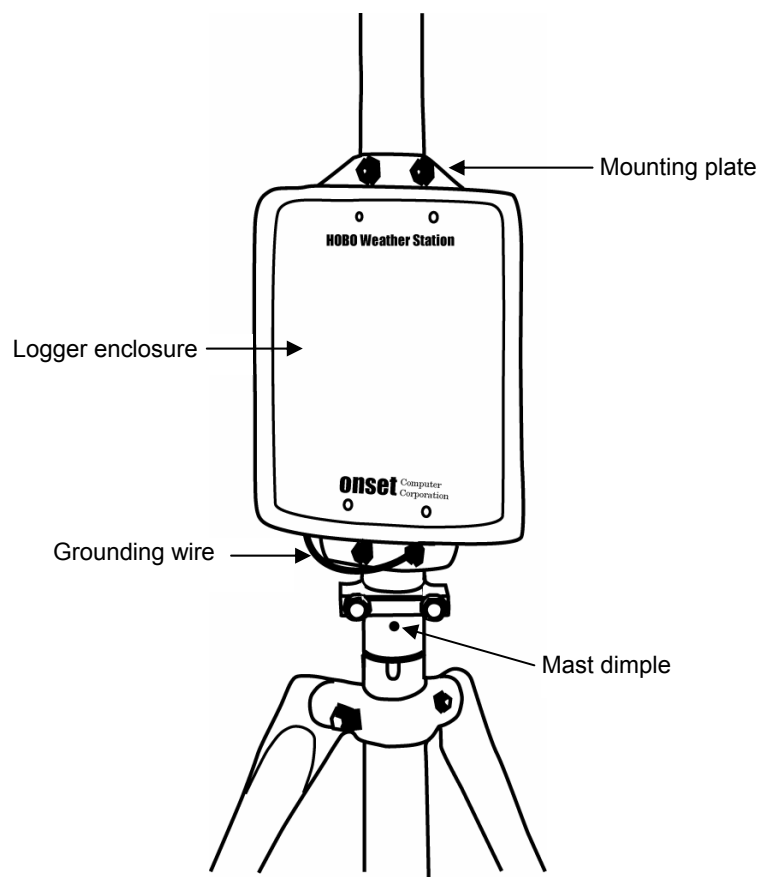

Figure 28: Logger Housing on Mast
2. Using the two 1-5/8 inch U-bolt assemblies provided, mount the logger enclosure on the lower end of the upper mast in line with the upper mast dimple (see Figure 28). The lower housing U-bolt can be placed directly above the U-bolt holding the mast pieces together. **Note:** When assembling the U-bolts, place the U-bolts around the upper mast, and install the saddle clamp. Place the logger enclosure against the saddle clamps and screw on the top U-bolt nuts only.